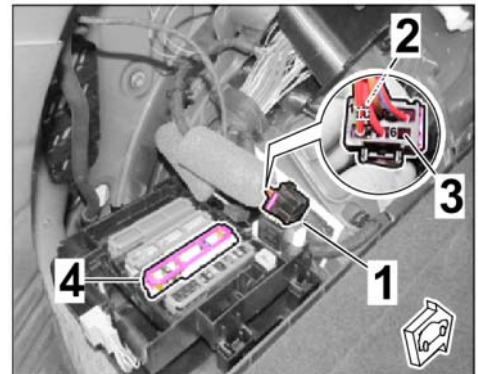

Figure 7
2.3 Check pin assignment in connector B on the vehicle side (6-pin; trailer hitch preparation ⇒ *Figure 7*).